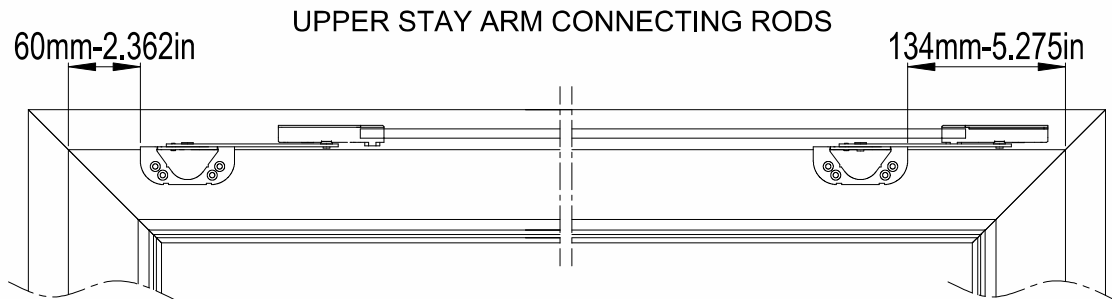

FIGURE.10
- a- Assemble upper stay arms in place in accordance with the measures in Figure.10.